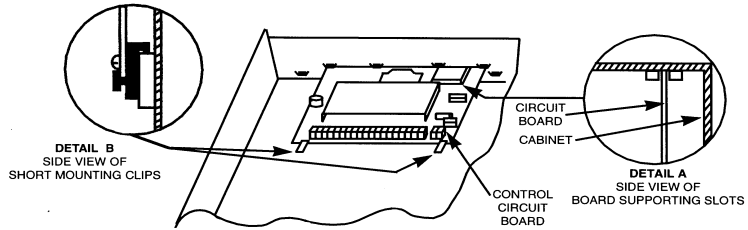

Figure 2. Mounting The PC Board
Mounting The Control's Circuit Board Alone in The Cabinet (Fig. 2)
1. Hang two short Black mounting clips (provided) on the raised cabinet tabs (see Detail B in Fig. 2).
3. Swing the base of the board into the mounting clips and secure the board to the cabinet with the accompanying screws (see Detail B in Fig. 2).